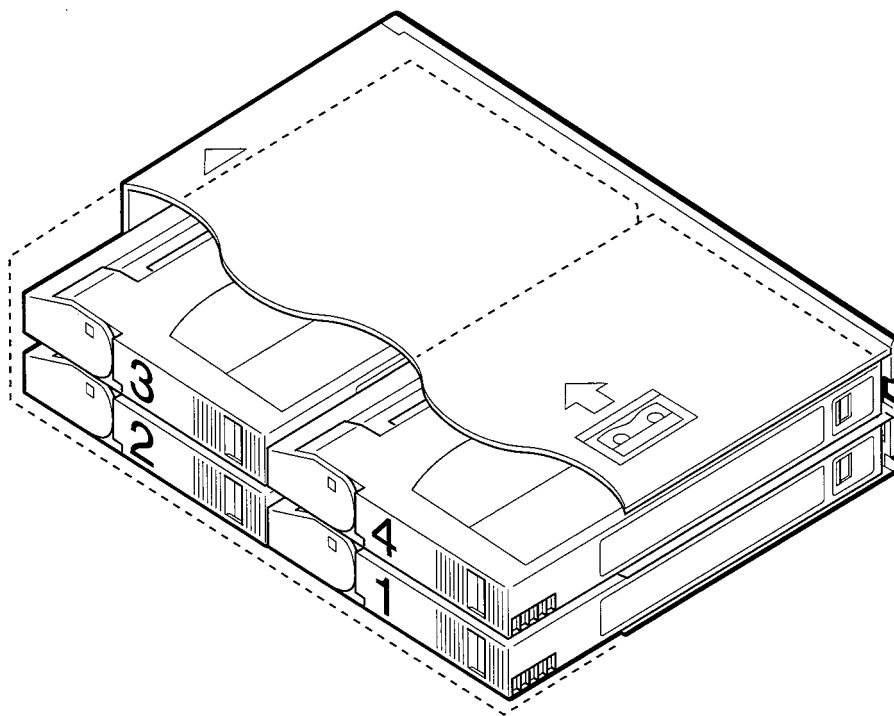

Figure 4-5. The numerical positions of tapes in the magazine
Figure 4-5 shows the slot number assignments for tapes when they are loaded in the magazine. For example, when you use the select tape slot four, you are selecting the tape in position four in the Figure above. For DigiPath, tapes can be loaded in any order.
2. Load the cleaning cartridge into tape position 1 of the tape magazine, as shown in Figure 4-5. If necessary, remove the first tape and insert the cleaning cartridge in its place.